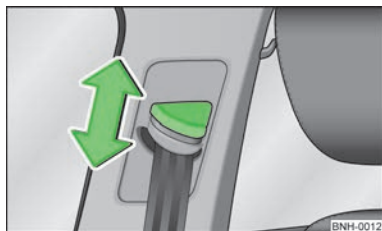

Fig. 81
- Press the height adjuster and move up or down in the desired direction » Fig. 81.